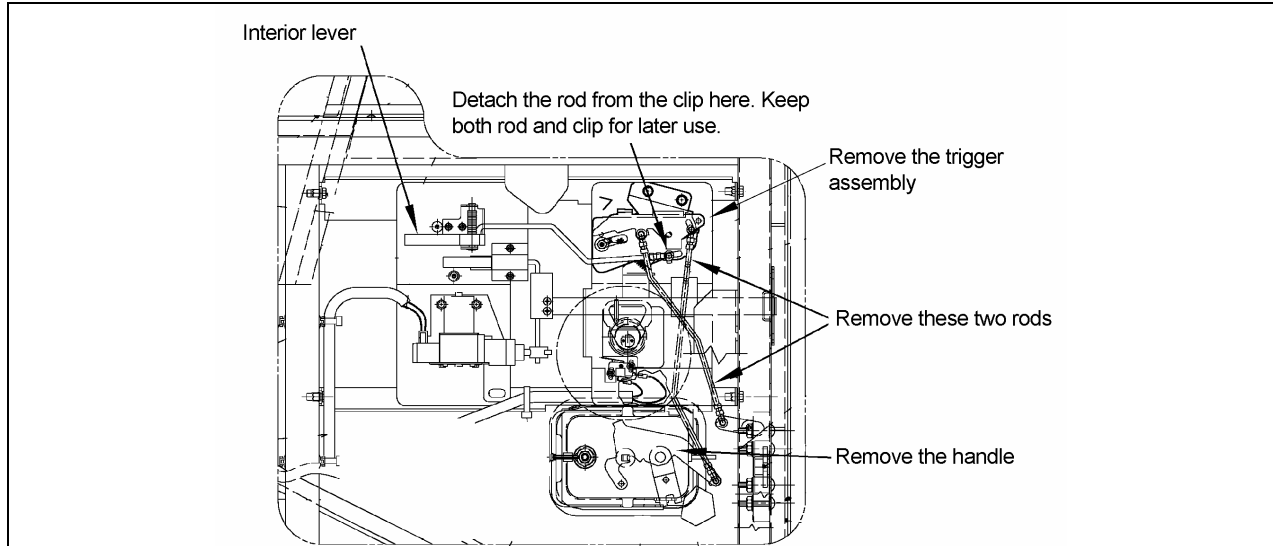

FIGURE 1: REF. STEPS 1 TO 4
2. Remove the two rods shown in figure 1.
3. Detach the interior lever rod as indicated in figure 1. Keep the rod and the clip for later use. Remove the trigger assembly (figure 1).